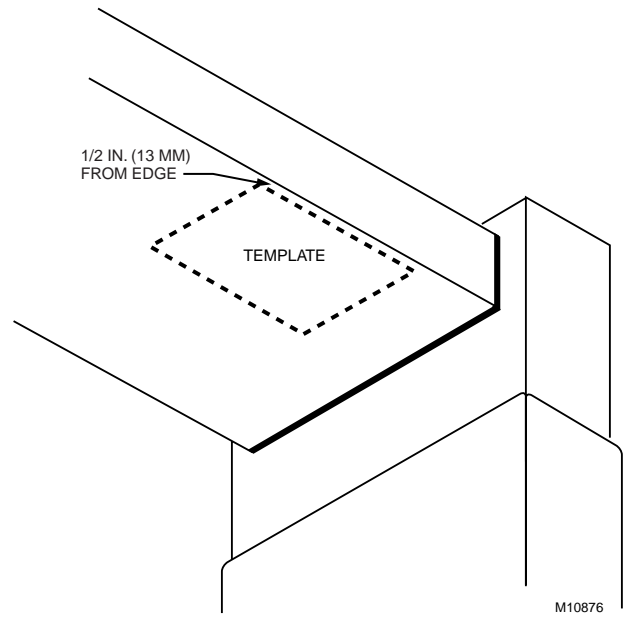

Fig. 5. Position template.
1. Tape the template 1/2 in. (13 mm) from the edge of the duct and trace around the template. See Fig. 5.